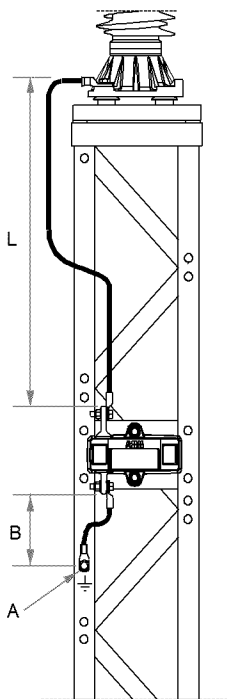

Fig 8.5
- The length of the conductor between the arrester and the surge counter is to be minimum 0,5 m when a clip-on CT is to be used for control measurements of leakage current. The maximum length shall not exceed 3 m in the case of the insulating base and conductor having a LIWV of 15 kV. Longer lengths up to 10 m could be used with an insulating base having suitably higher LIWV. The insulated base and conductor shall then be insulated for $5 \times L$ kV (LIWV), where L is the conductor length in meters as shown in figure 8.5. Note that connection leads should always be kept as short as possible as longer leads result in a disadvantage from a protection point of view since inductance is added in series with the arrester.
- The conductor from the earth terminal of the counter to connection with the grounded support stand (point A in figure 8.5) on to which the counter is attached (or similar support) shall not exceed 0,5 m. For example, length B as shown in figure 8.5. The earth conductor may be extended from the connection point at the support to any "earth point" if the support itself, due to local requirements, is not considered as sufficiently grounded. However a flashover of the arrester base may occur if the length (L+B in figure 8.5) results in the LIWV as described above being exceeded and the counter may be damaged if the length B exceeds 0.5 m.